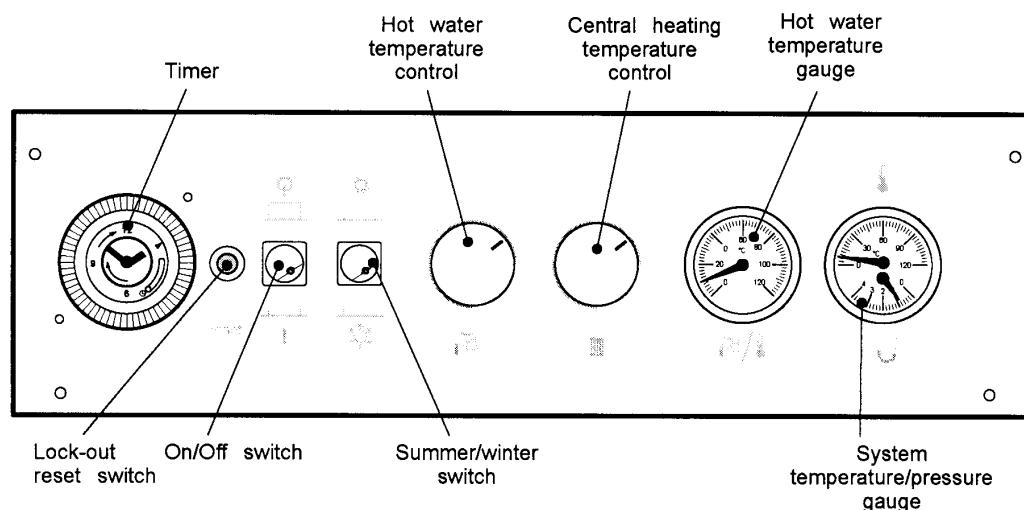

Fig.14 – Boiler controls
5.2 FIRST LIGHTING (Refer to Fig. 14 for boiler controls)
Warning: Before servicing the boiler press in the on/off switch (see Fig. 14) to switch off the boiler (green light off), isolate the electricity supply and close the boiler gas service cock (see Fig. 2). Allow the boiler to cool.